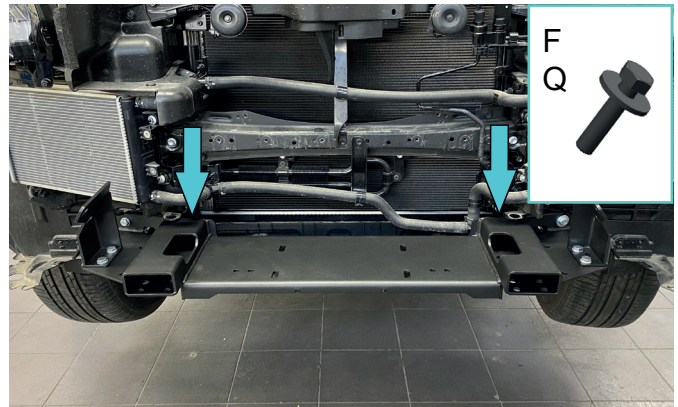

Fig.22
22. Fix winch bracket (item 9) on both sides of the vehicle using bolts M10x30 (item F), washers 10 (item Q) as shown in fig.22.